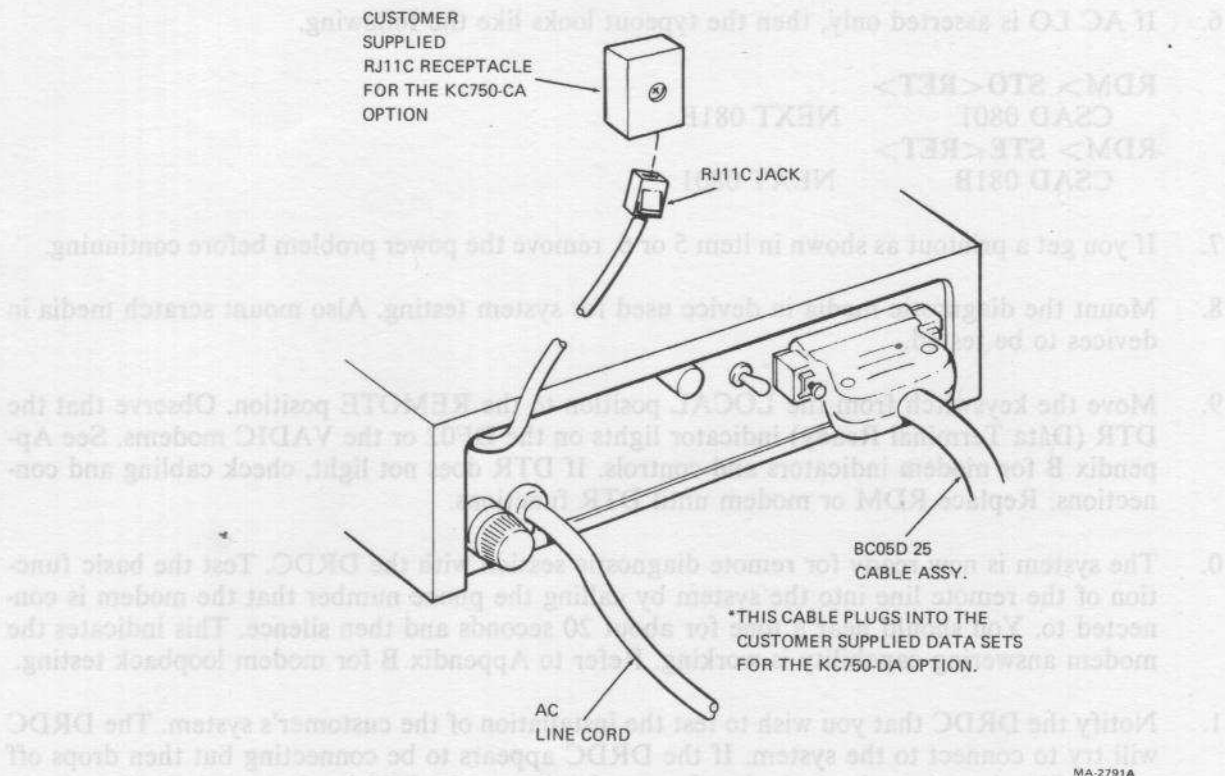

Figure 3-8 KC750-CA Modem Cabling
11. Connect the BC05D-25 between the I/O connector panel and modem securing the cinch plug connectors. Figure 3-8 shows modem cabling. The modem is a small freestanding assembly that requires 115 Vac in US applications.